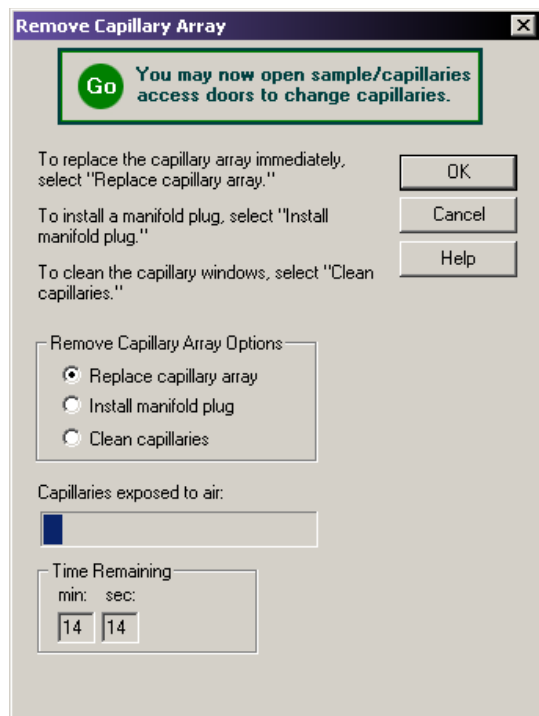

Figure 9.5 Remove Capillary Array Dialog Box
15. In the Remove Capillary dialog box (Figure 9.5), select the **Clean Capillaries** radio button and click **OK**.